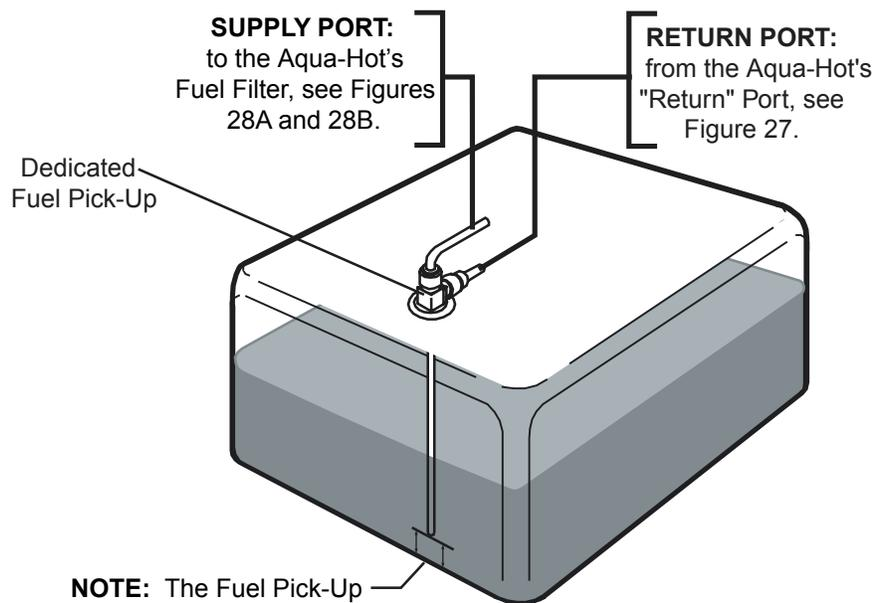

Figure 26
- A. The diesel fuel supply should be drawn directly from the Vehicle’s main Fuel Tank or from a separate auxiliary Fuel Tank, if applicable. The Fuel Tank should be equipped with a dedicated fuel pick-up (“Supply” port and “Return” port); reference Figure 26.
3. Connect the **Supply** and **Return** lines to the Fuel Tank/Fuel Pick-Up; reference Figure 26.